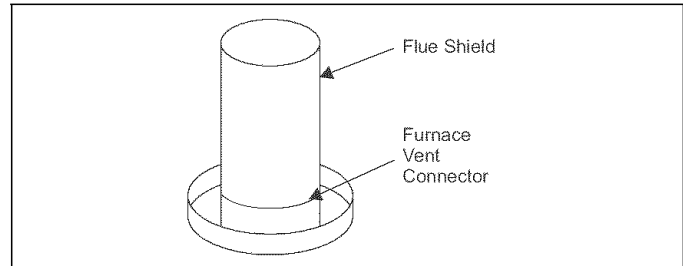

FIGURE 28: Flue Shield Installation
1. Install Flue Shield inside Vent Connector. Push Flue Shield down until in contact with the built-in stop inside the Vent Connector. See Figures 28 & 29.